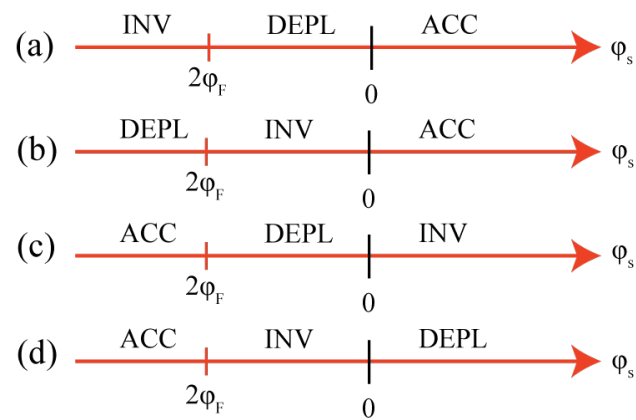

Figure 4: Surface potential
- A. ① → inversion ② → depletion ③ → flatband ④ → onset of accumulation
- B. ① → accumulation ② → onset of depletion ③ → inversion ④ → deep depletion
- C. ① → accumulation ② → inversion ③ → depletion ④ → onset of inversion
- D. ① → depletion ② → flatband ③ → deep depletion ④ → accumulation
- E. ① → accumulation ② → onset of inversion ③ → depletion ④ → inversion**
- F. ① → flatband ② → accumulation ③ → depletion ④ → inversion
9. (1 mark) Identify the surface potential ranges corresponding to accumulation, depletion, and inversion in ideal PMOS devices (figure 4).